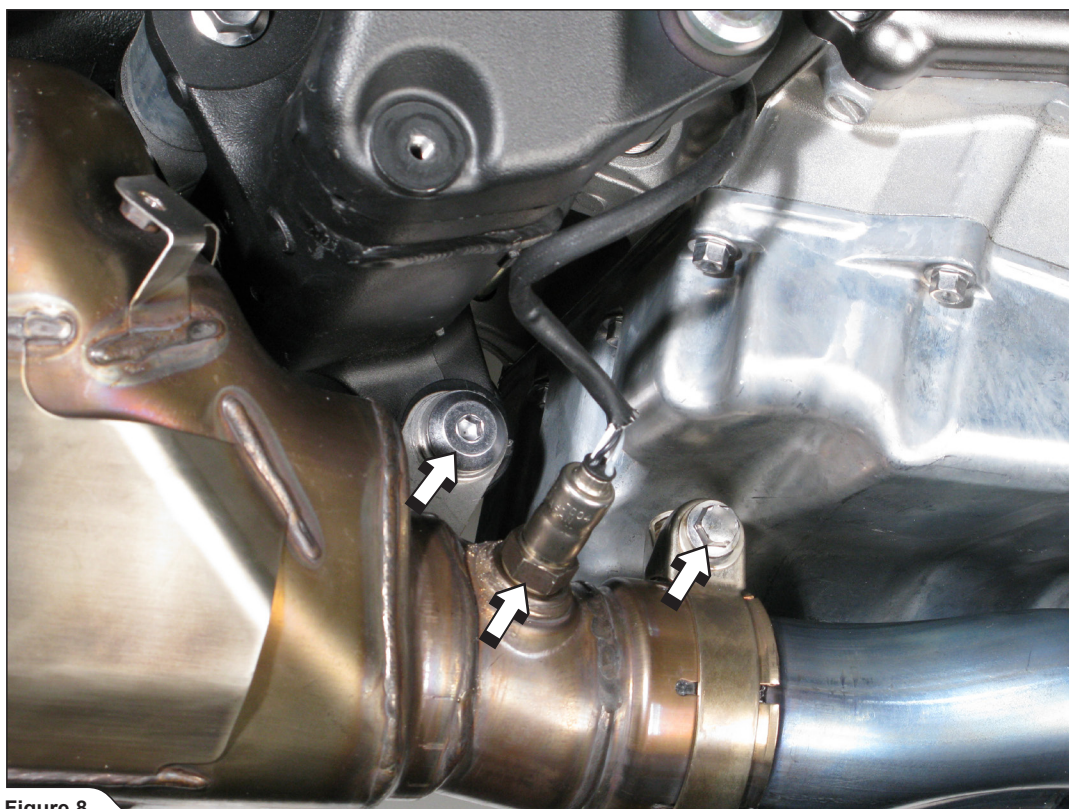

Figure 8
8. Untighten metal clamp at the collector-headers connection and unscrew the collector hanging bracket and the lambda sensor. Remove the collector together with exhaust valve cables off the motorcycle (Figure 8).